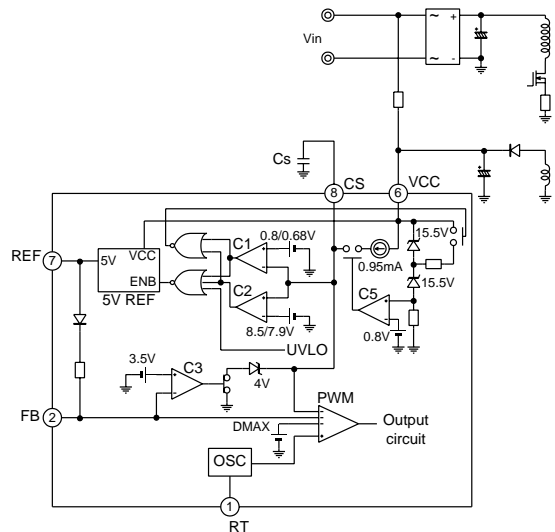
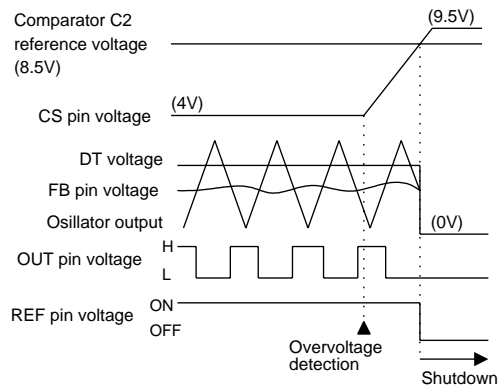

Fig. 16 Overvoltage shutdown circuit
Fig. 17 Overvoltage shutdown timing chart
The IC contains a Vcc overvoltage protection circuit to protect the IC from damage by overvoltage. Figure 16 shows the overvoltage protection circuit. Figure 17 is a timing chart that illustrates overvoltage protection operations. Overvoltage is detected if the supply voltage Vcc rises to  $31.8\text{V}$  ( $I_{CC}=14\text{mA}$ ) or more and current flows in the built-in zener diode. The output of comparator C5 then goes high and the constant current source ( $0.95\text{mA}$ ) raises the CS pin voltage. When the CS pin voltage exceeds  $8.5\text{V}$ , the output of comparator C2 goes high to turn off the  $5\text{V}$  REF circuit. The IC then enters the latched mode and the IC output is put in the off (low voltage) state. When latched mode, the IC current consumption is  $45\mu\text{A}$  (typ) ( $V_{CC}=10\text{V}$ ). This current must be supplied through the startup resistor. The overvoltage shutdown operation can be reset by lowering the supply voltage to below  $9.0\text{V}$  or forcing the CS pin voltage below  $7.9\text{V}$ . (When you want to enable Vcc overvoltage shutdown at a desired voltage, see item 6 in "Design advice.")